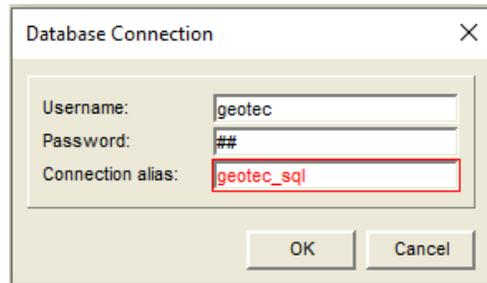

Figure 7 – Connection window for an SQL Server or Oracle database
- a. The database connection window is displayed (figure 7).
- c. To update an SQL Server or Oracle database, click **Connect to ODBC** (Figure 7) and enter the 3 information.
- d. To select an SQL Server or Oracle database, click **Connect to ODBC** (Figure 7) and enter the 3 information.